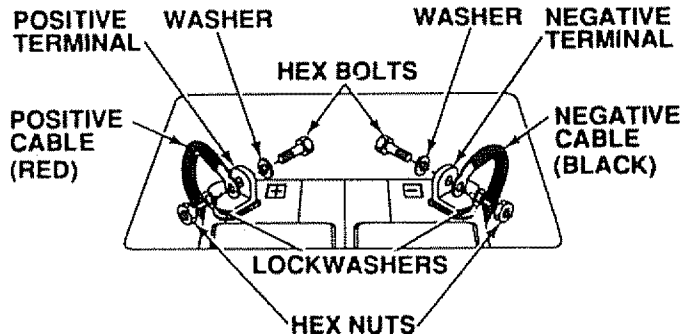

FIGURE 18
- a. Connect each end of the **RED** jumper cable to the **POSITIVE (+)** terminals of each battery (taking care not to short against chassis). (Fig. 18).